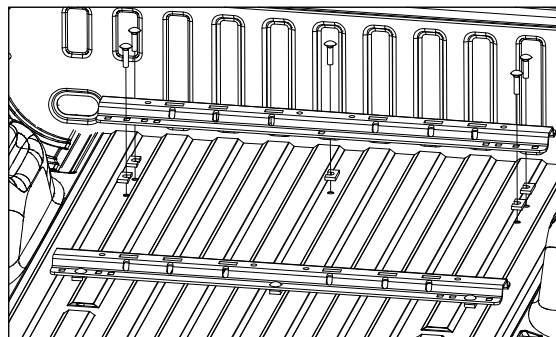

Figure E3: View looking into truck bed from rear of truck.
- 3. Install forward mounting rail.** Reposition the forward mounting rail over the drilled 9/16" holes in the bed. Install a 1/2" X 2" carriage bolt through the mounting rail into each of the five drilled holes, as shown in Figure E3.